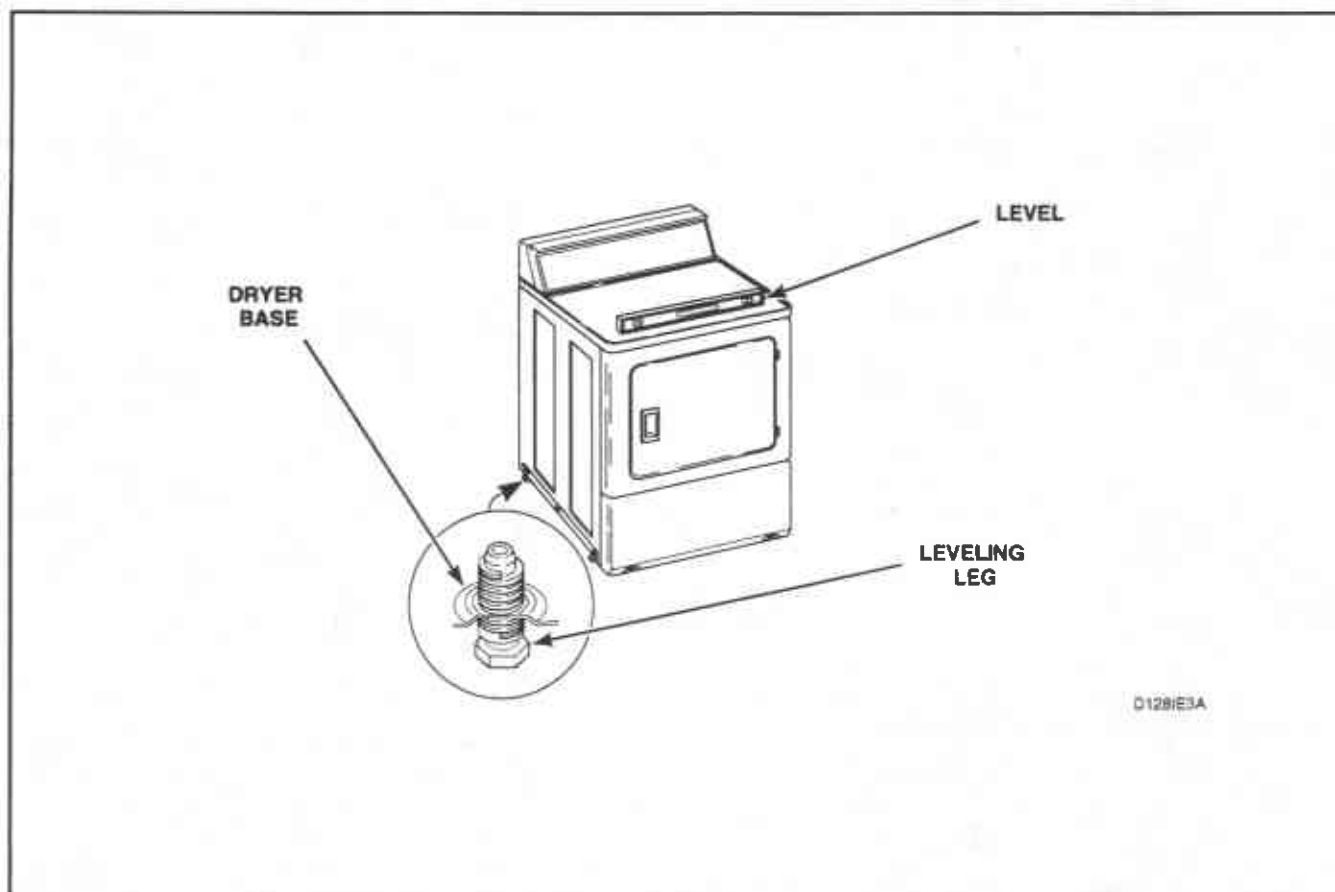

Figure 47
- Remove leveling legs from base and reinstall on new base, *Figure 47*.
46. LEVELING LEGS (Figure 47)